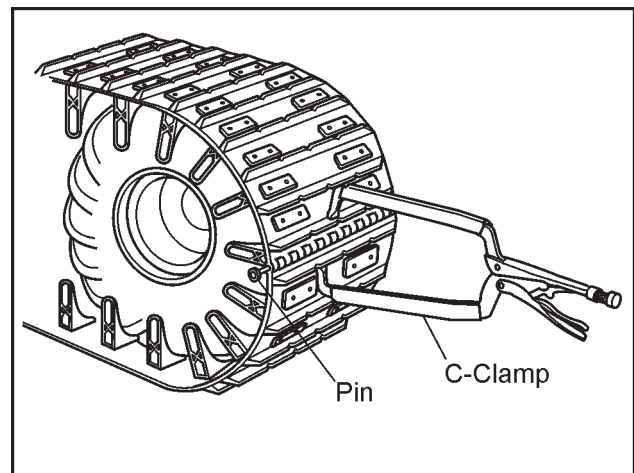

Figure 11-9. Securing with C-clamps.
10. Join the two ends of the track and secure them in place with C-Clamps as shown in Figure 11-9, so that the holes of the hinge lacing line up.